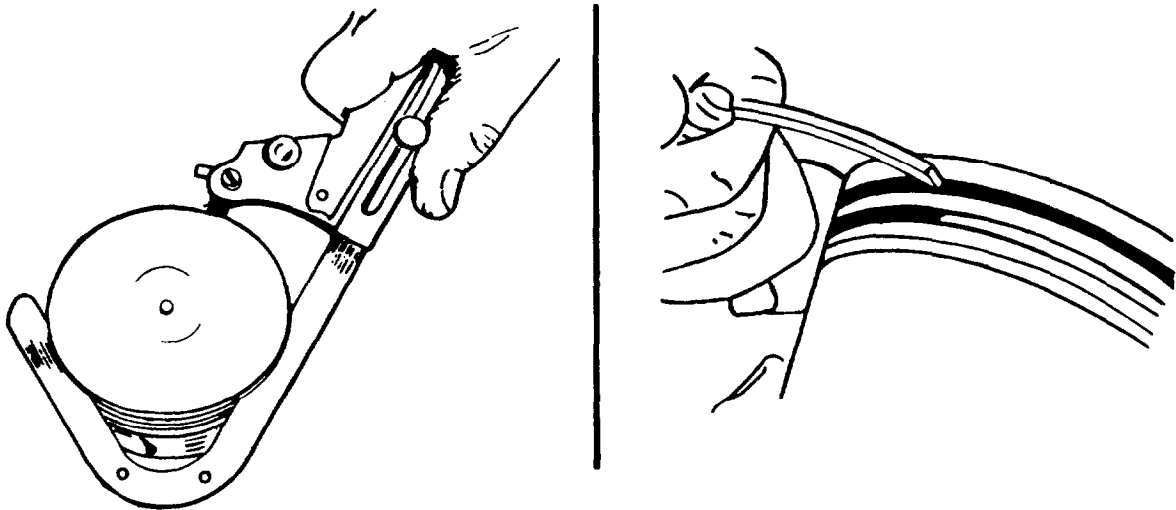

Figure 5-50. Cleaning Piston Ring Grooves
- (3) The pistons are fitted with two compression rings and one oil control ring with an expander. Remove these rings from the piston using a piston ring spreader.
- (4) Clean the piston ring grooves with a groove cleaner or the end of a broken ring filed to a sharp point. See figure 5-50. All passages should be cleaned with a non-caustic solvent. Clean the rod bore and the back of the connecting rod bearings thoroughly.